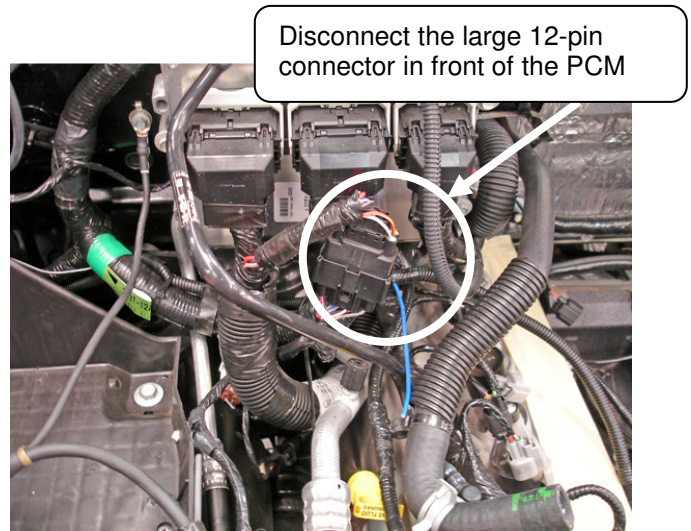

Figure 6
15. Cut the blue wire from the fan harness off 3 inches from the connector in front of the PCM. (Figure 6)